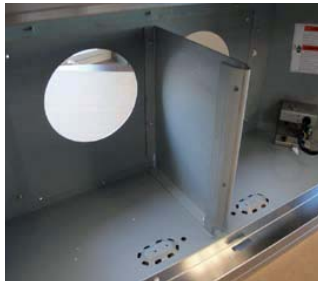

FIGURE 9
3. Attach the blower bracket divider inside the hood with the 2 screws into the top of the hood and 2 screws into the back, all supplied with the blower kit (Figure 9).